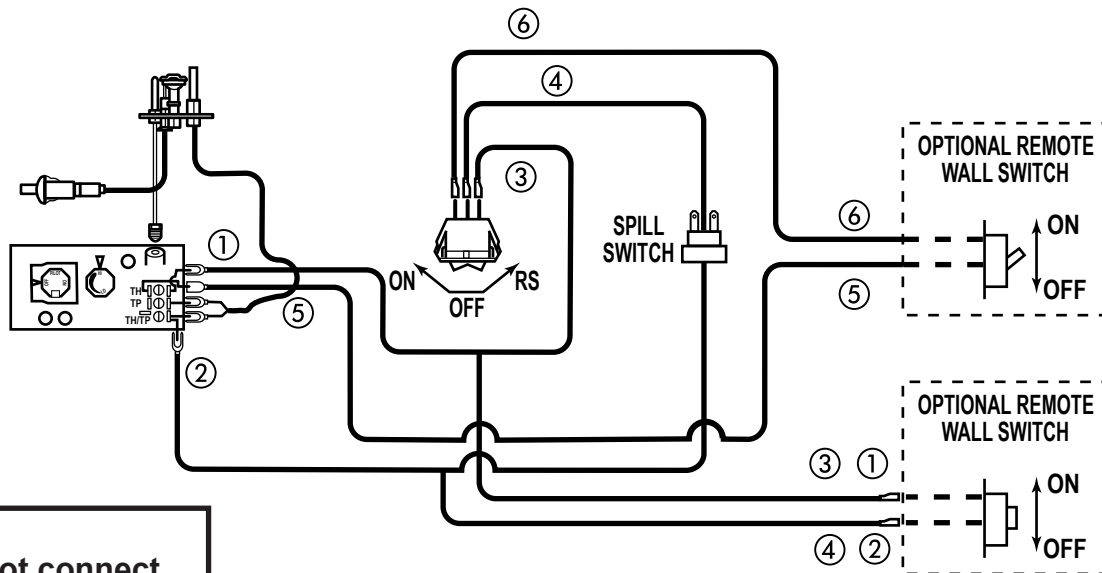

Figure 19 - Wiring Diagram for Wall Switch
A remote wall switch and up to fifteen (15) feet of 18 Ga. wire may be used with this appliance. Attach the wall switch in a junction box at the desired location on the wall. See *Figure 19*. Do not extend beyond the wall switch wire length provided.